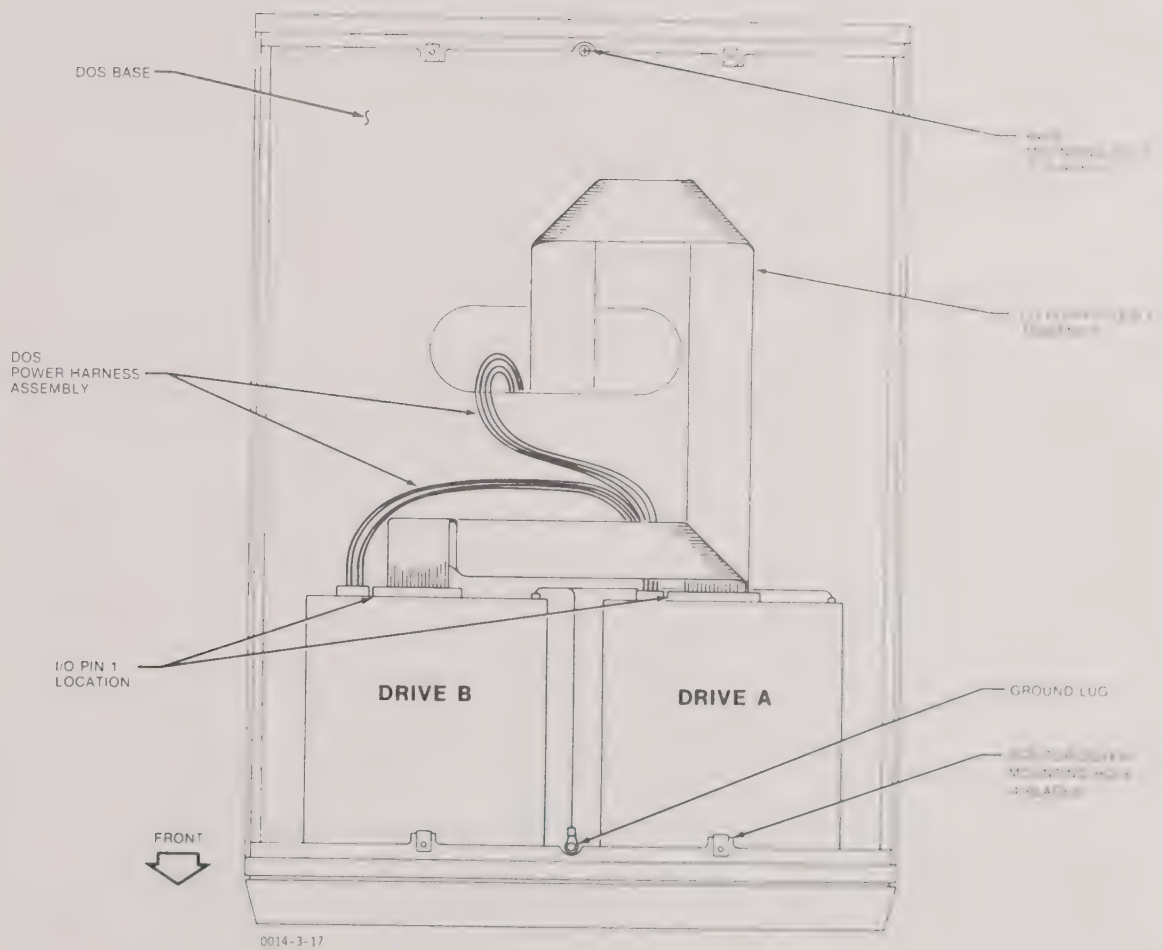

Figure 7-8. Top View of DOS Unit With Top Cover Removed
7. Connect the ribbon cable connectors onto the disk drive board edge connectors with pin one of the ribbon cable connector oriented to the left of the drive as viewed from the front (refer to Figure 7-8). The cables should be dressed as shown in Figure 7-8.
8. Connect the power harness connectors to the drive connectors with the brown wires oriented to the left of the drives. See Figure 7-8.